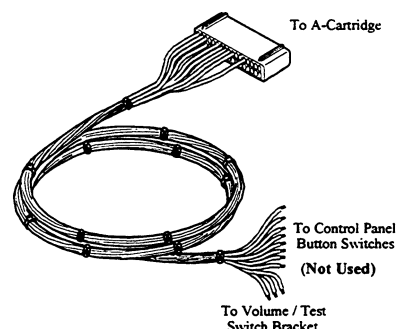

Figure 6: Auxiliary Cable Harness
22. Connect the player 1 and the player 2 kick buttons to the auxiliary cable harness as shown in figure 6. Make the connections according to the chart in table 2.